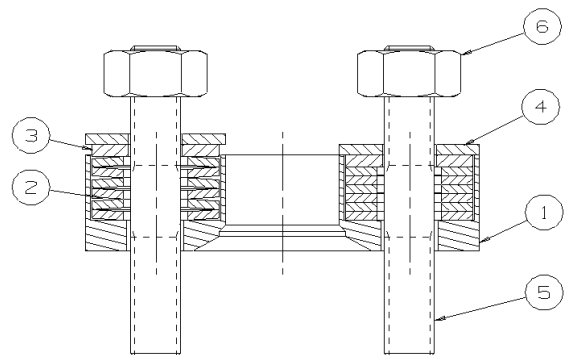

Figure 1- Live Loaded Packing Arrangement
NOTE: Refer to Fig. 1 for installation.
1. Thread packing studs (5) into valve bonnet.
2. With the packing follower and packing installed (refer to valve IOM) install packing flange (1) onto valve as shown.
3. Install spring washer (2) as shown on the left side of Fig. 1 in series.
4. Install spring spacer (3), washer (4) and packing nut (6) as shown.
5. Tighten the packing nut (6) until the washer (4) comes into contact with top of the packing flange (1). This will set the live loaded packing to the required thrust.